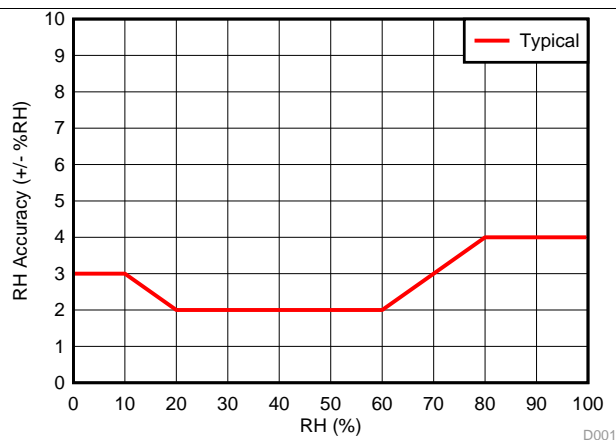

Figure 2. RH Accuracy vs. RH
- (1) See Figure 2.
| $\text{RH}_{ACC}$ Accuracy                        | Refer to <a href="#">Figure 2</a> in Typical Characteristics section.   |                    | $\pm 2$            |                    | %RH              |